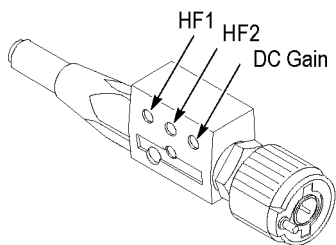

Figure 7: P5100 Adjustment Locations
7. Locate the **HF1**, **HF2**, and **DC Gain** adjustments. (See Figure 7.)